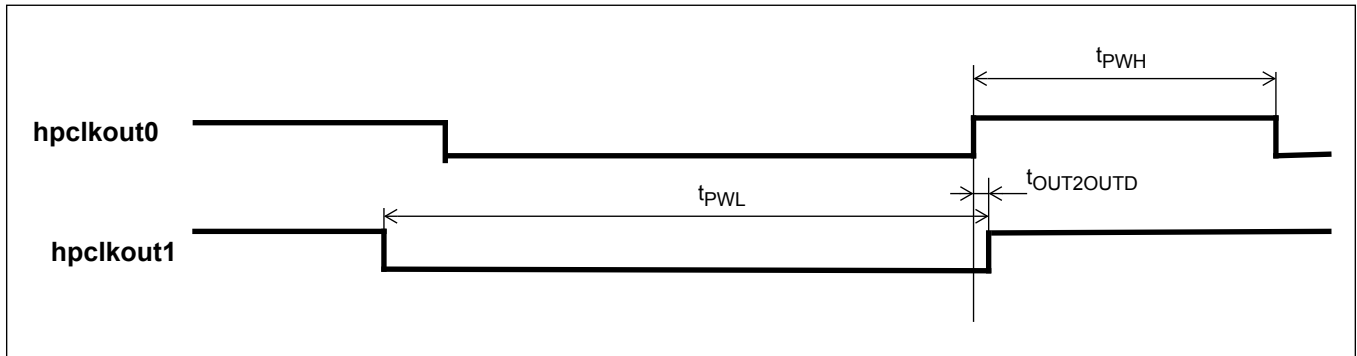

**Figure 25 - Input To Output Timing for hputclk0**
**AC Electrical Characteristics\* - Inputs (see Figure 25).**
**AC Electrical Characteristics\* - Input To Output Timing (see Figure 25)**